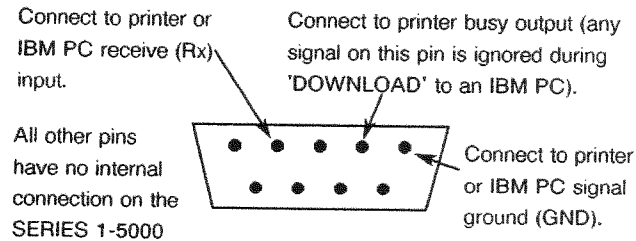

Figure 34 Connections for the RS232 plug (As viewed on the supply panel)
1. Connect a printer to the RS232 output plug mounted on the supply panel on the right hand side of the case. An interconnecting cable will be required whose connections for the instrument's RS232 plug are as shown in figure 34. Consult the printer's own instruction book to ascertain the correct connections for its RS232 port. In most cases a standard serial cable should be suitable (9-way 'D' socket to 25-way 'D' plug).
1. Connect a PC to the RS232C output socket mounted on the supply panel on the right hand side of the case. An interconnecting cable will be required whose connections for the instrument's RS232 socket are as shown in figure 34. Consult the IBM PC's own instruction book to ascertain the correct connections for its serial port. In most cases a standard serial cable should be suitable (9-way 'D' socket to 25-way 'D' plug).